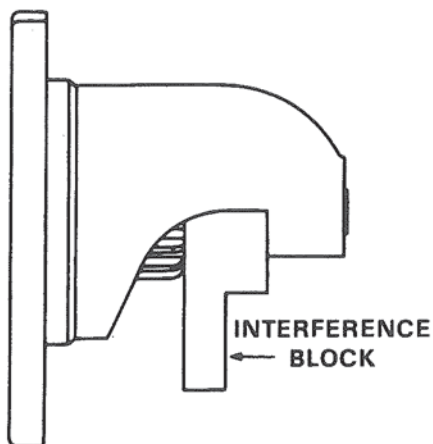

Figure 18. Positioning Interference Block.
5. Place block against drive gear and close switch. Figure 18. Test light should not light.
7. Install nut to end of moving core shaft using tools shown in Figure 18.